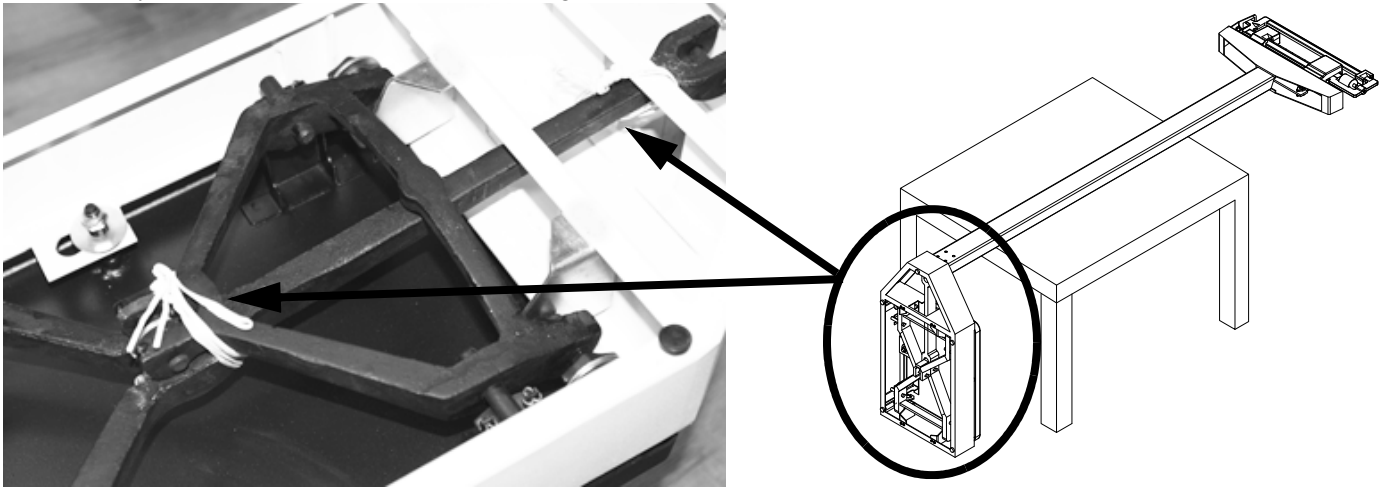

Figure 2-5. Lay Scale on Table to Access Bottom of Scale
1. Lay the scale on a table as shown in Figure 2-5.
2. There are tie wrap wires that prevent the underside of the scale carriage from shifting during shipping. Remove and discard the wires on the levers as shown in Figure 2-5.